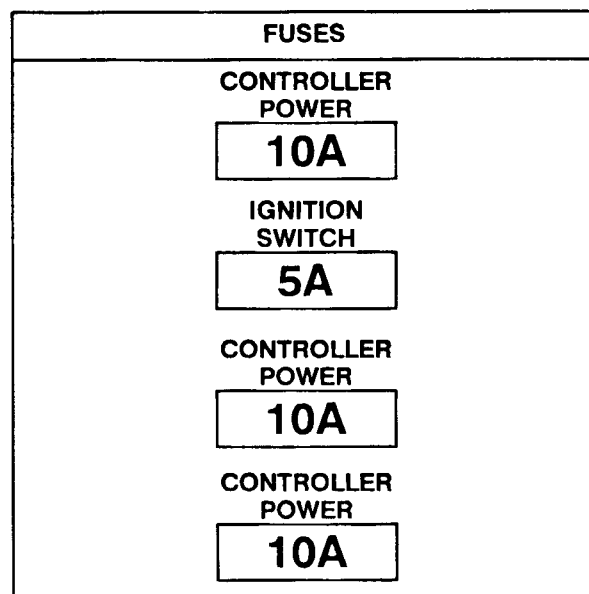

Figure 39
1. Remove the two wires that are connected to the traction switch (Fig. 39).
2. Have a helper push the traction pedal down into either the FORWARD or REVERSE position; this will take the switch arm tension off of the switch. Loosen two (2) screws and remove the switch.